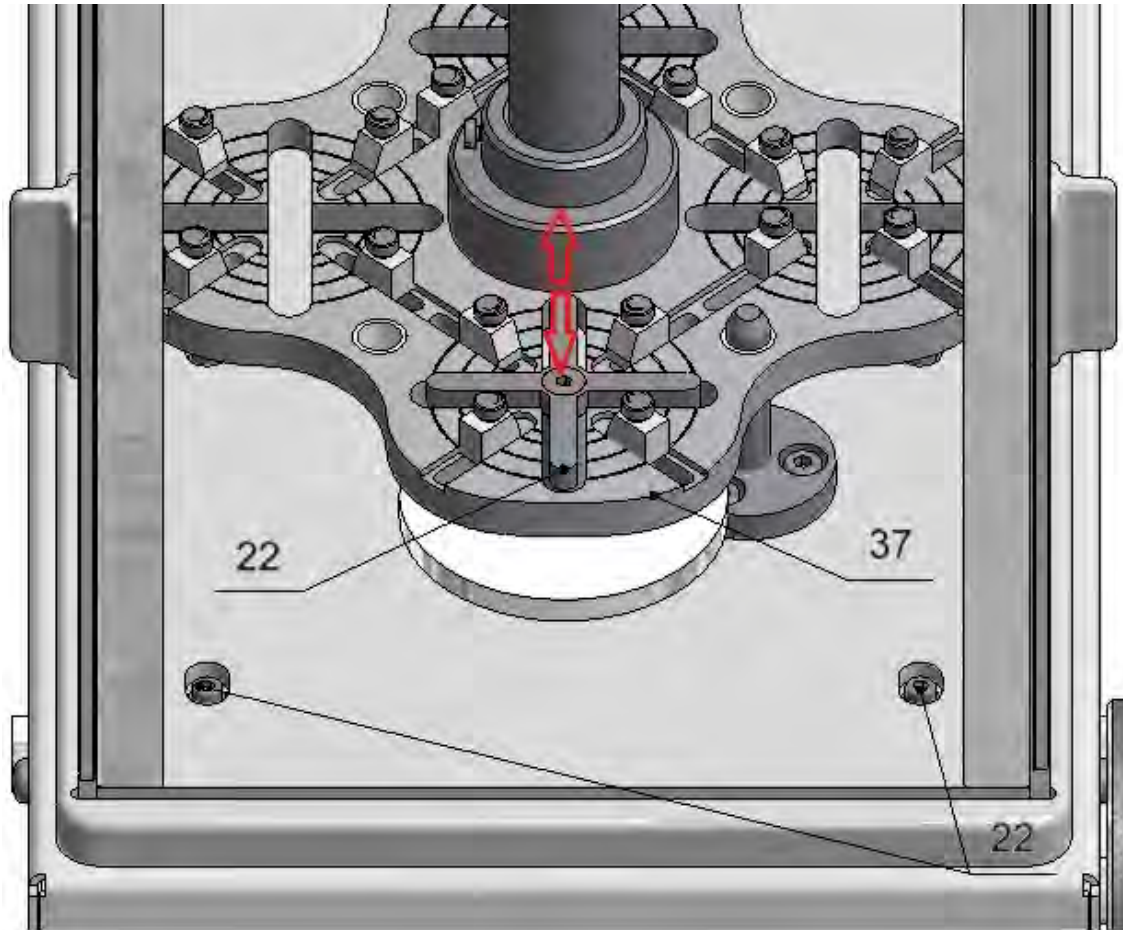

Fig. 13
- 27.5. Screw six M3 screws (27) and remove a weighing pan (22) together with a mandrel (23). (Fig.13)
- 27.6. Turn a plate (37) a quarter-turn, wait until the plate goes down and gets set in relation to a fixing mandrel, next put a weighing pan (22) on. (Fig.13)